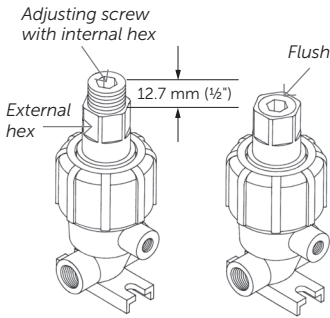

Figure 4
7. Make sure the diaphragm preload tool (T2) adjusting screw is out 12.7 mm ( $\frac{1}{2}$ " ) before placing the diaphragm preload tool (T2) onto the retainer nut (P12) and securing it in place with the outer cap (P9) (see Figure 4).
8. While holding the diaphragm preload tool (T2) external hex from turning with an adjustable wrench (S5), turn the internal hex on top of the diaphragm preload tool (T2) with the  $\frac{3}{8}$ " allen wrench (S6) clockwise until it is flush with the top surface of the diaphragm preload tool (T2) (see Figure 4).